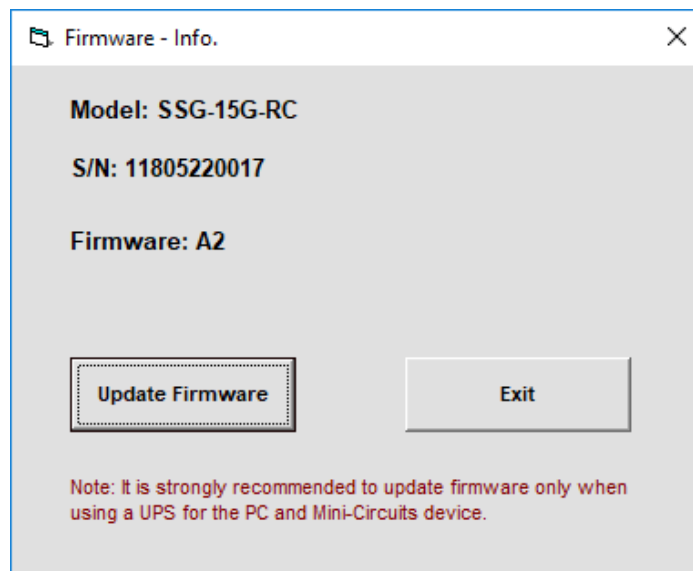

Figure 3.9.4 Firmware – Info window
3.9.4 **Click on the (fw) button;** this will cause the Firmware - Info window to open (see Fig 3.9.4). The 'Firmware' listed is the version of the firmware installed in your generator. To change firmware revision click on "Update Firmware", or click 'Exit' to close the Firmware – Info window.